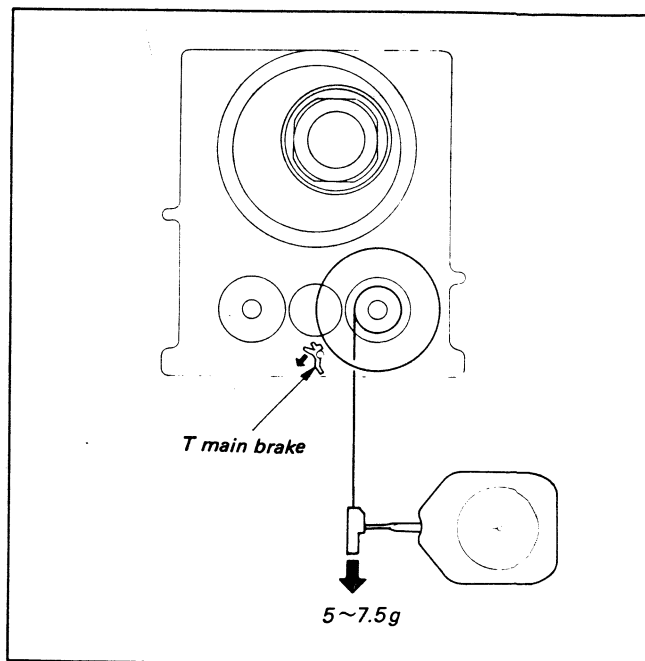

Fig. 3-65.
- 4) Pull the dial tension gauge (Ref No.J-6) in the direction of the arrow and confirm that the specifications are met. (Fig. 3-65)